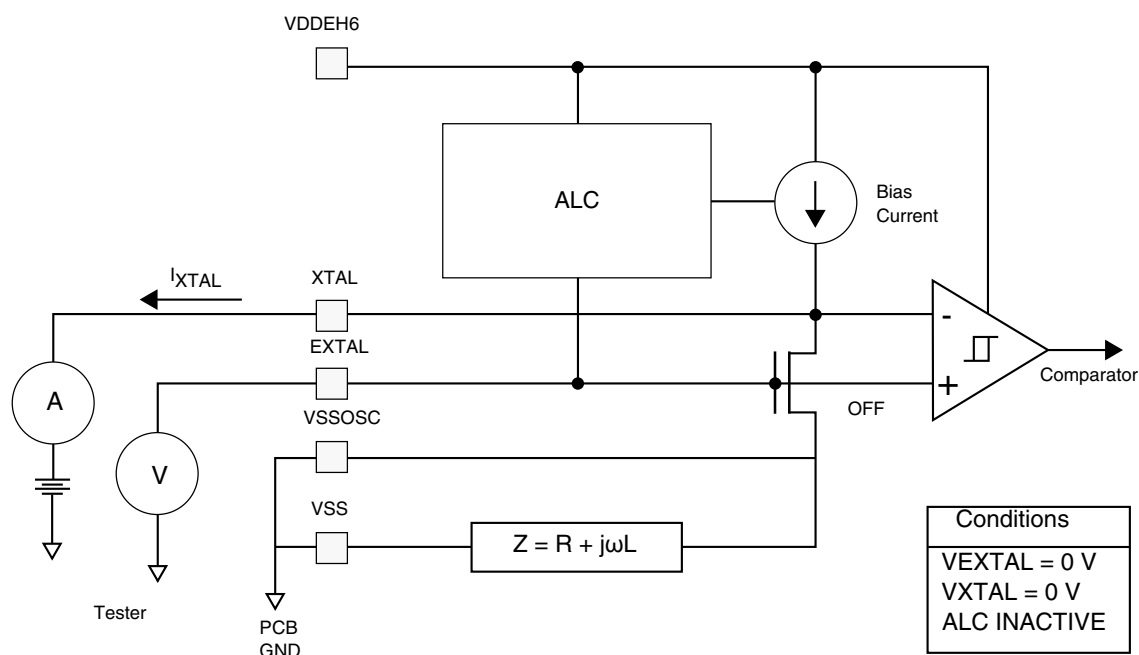

Figure 7. Test circuit
7. I_{XTAL} is the oscillator bias current out of the XTAL pin with both EXTAL and XTAL pins grounded. This is the maximum current during startup of the oscillator. The current after oscillation is typically in the 2–3 mA range and is dependent on the load and series resistance of the crystal. Test circuit is shown in Figure 7.